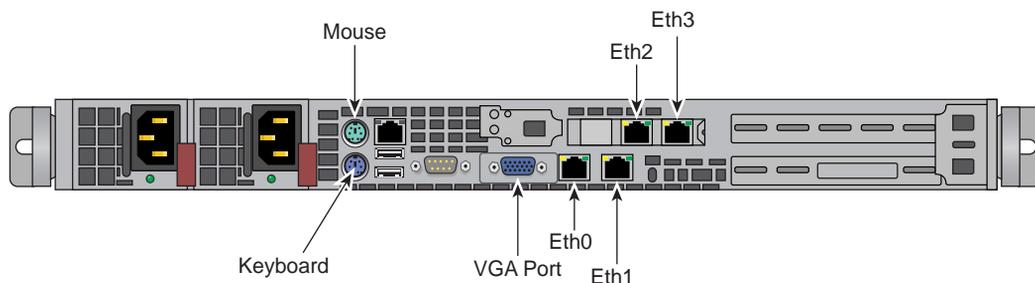

Figure 1-1 Optional System Management Node VGA Connection Points
- A LAN connection to the optional system management node (running the SGI Management Center software application). This can also be done using an optional VGA-connected console, see Figure 1-1.